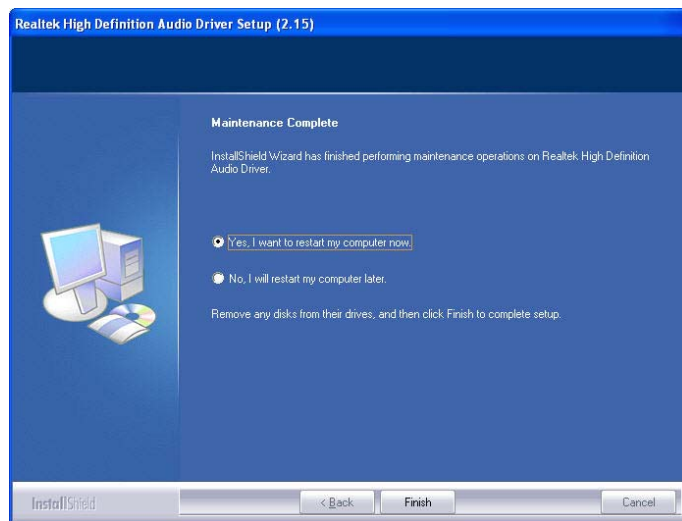

Figure 7-26: HD Audio Driver Installation Complete
Step 7: After the driver installation process is complete, a confirmation screen shown in **Figure 7-26** appears.
Step 8: The confirmation screen shown in **Figure 7-26** allows you to restart the computer immediately after the installation is complete or to restart the computer later. For the settings to take effect the computer must be restarted. Once you have decided when to restart the computer, click the “Finish” button.